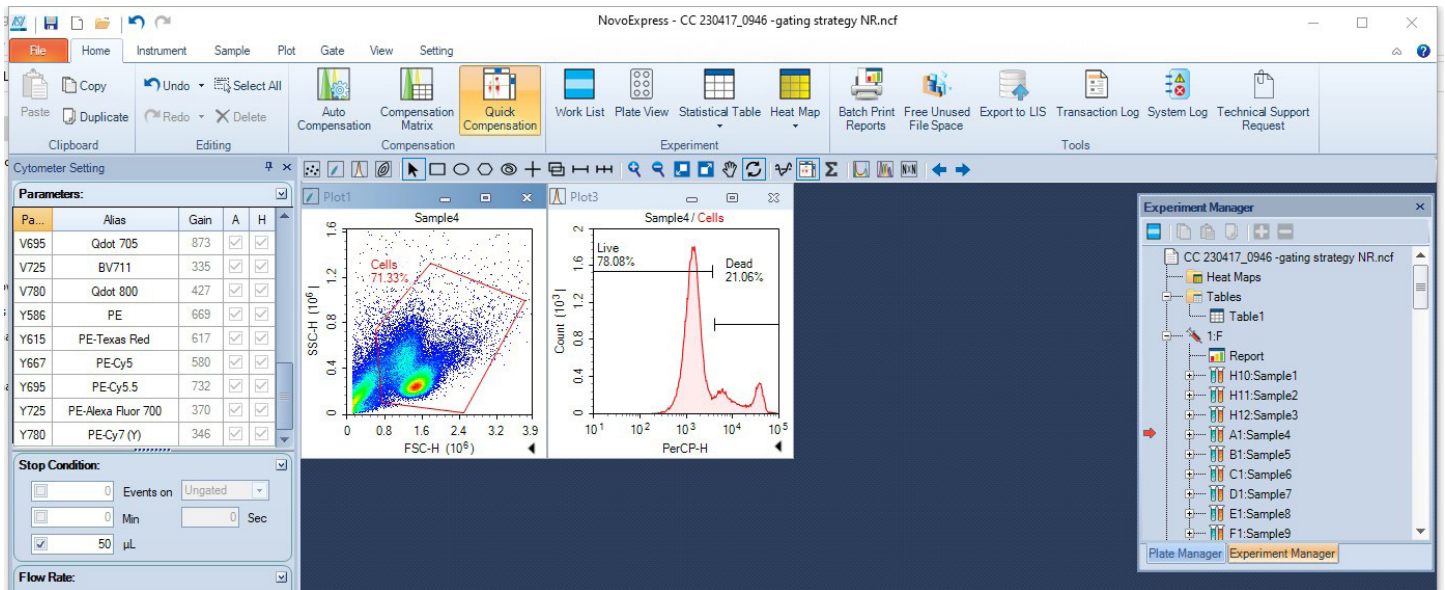

Figure 4. Setting up gating strategy 1 based on FSC and SSC.
3. Display the gated cells in another plot to identify live or dead cells (Figure 4); draw gates on populations of interest (i.e., live cells). Gates are determined by experimental controls.